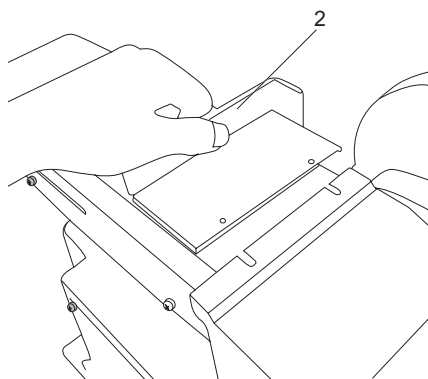

Fig. 16
- > Remove the work support (2). (Fig 16)